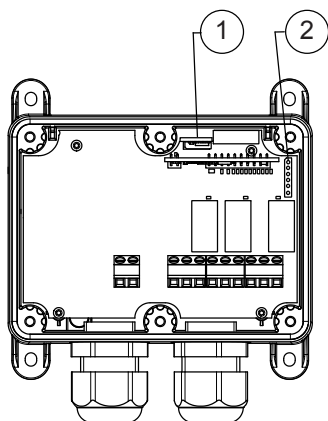

Figure 5. Memory card and display slots in the receiver
4. Insert the memory card that you want to copy in the memory card slot in the receiver (see fig. 5).
5. Mount the display card in the display card slot (see fig. 5).
4. Insert the memory card that you want to copy all parameters to in the memory card slot (see fig. 5).